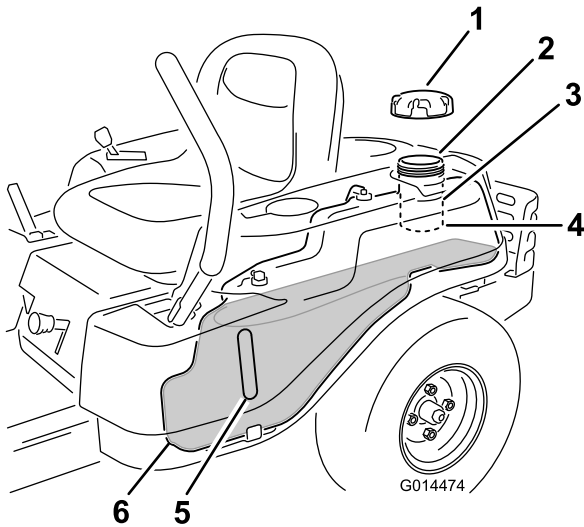

Figure 9
Note: You can use the fuel window to verify the presence of gasoline before filling the tank (Figure 9).
2. Slowly add regular, unleaded gasoline until the fuel reaches the base of the filler neck (Figure 9).